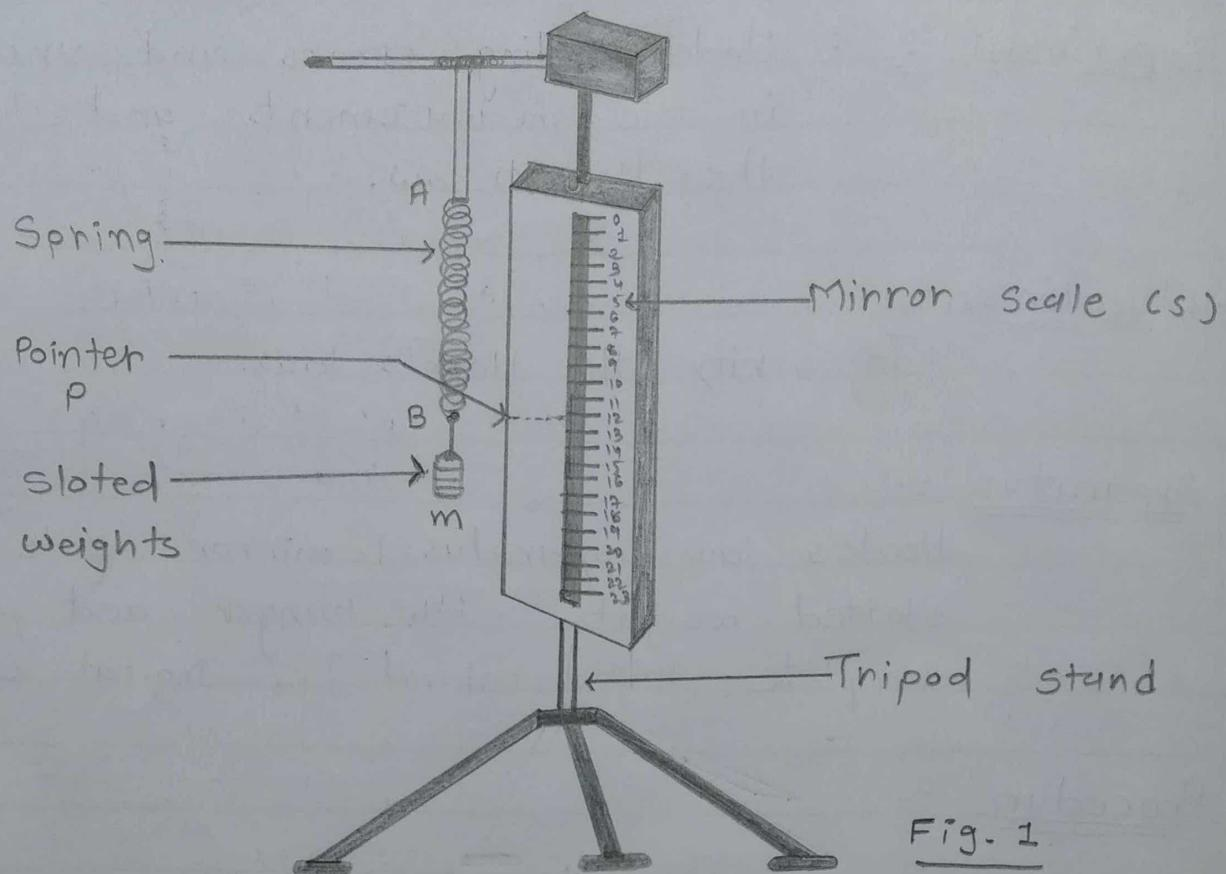

Fig. 1
1. Arrange a spring AB, a pointer P and a vertical scale as shown in Fig. 1.